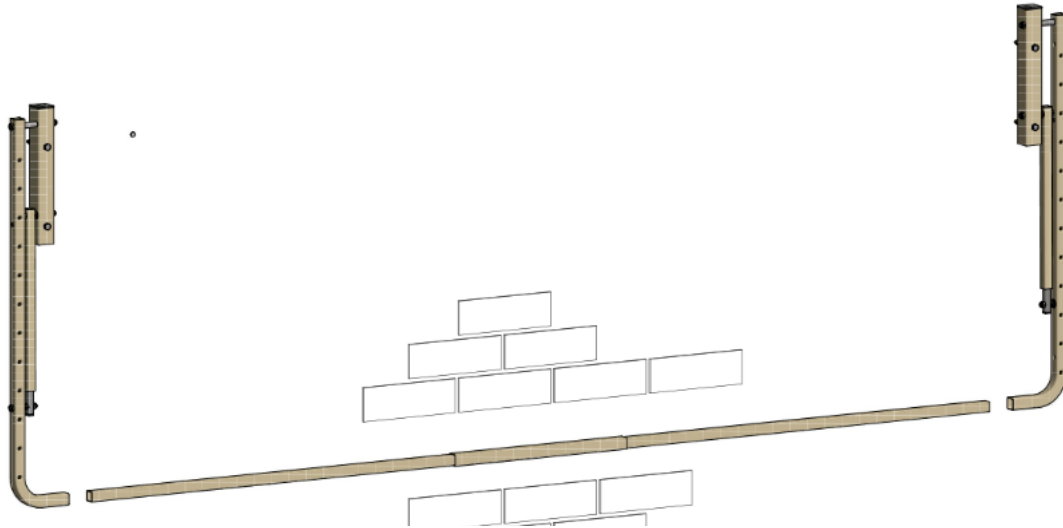

Figure 3 – Front Bar Assembly
- Insert 1 end of the spreader into the mounted arm assembly (Fig 3). Slide the remaining arm assembly onto the spreader.